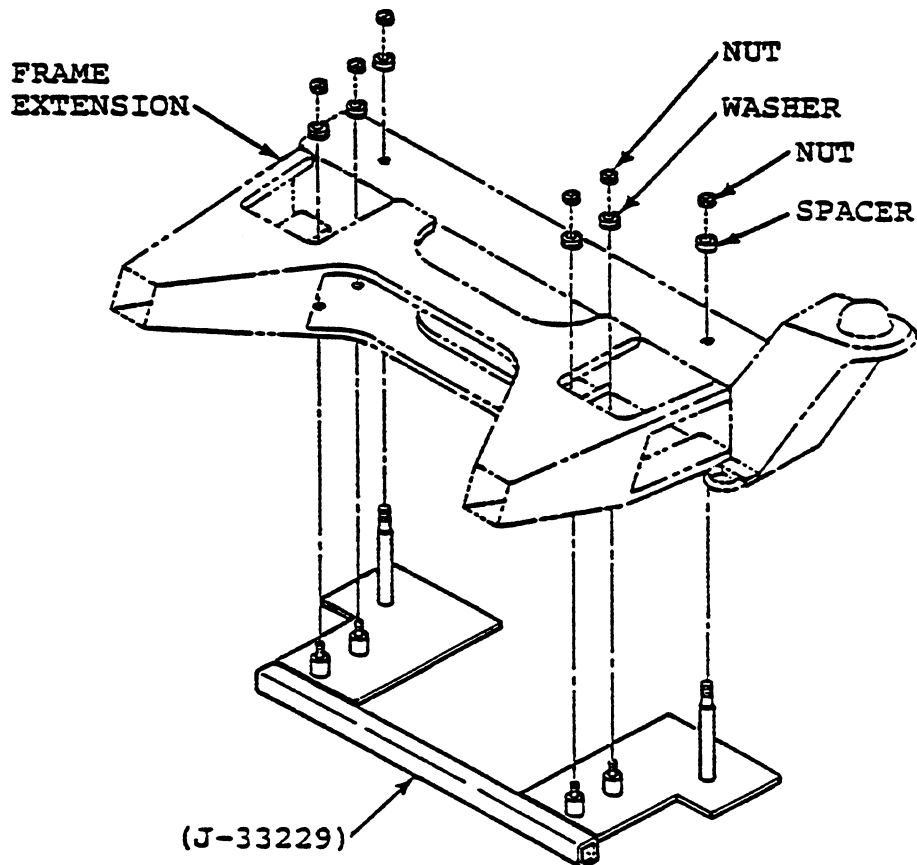

FIGURE 1
- Attach alignment jig (J-33229) loosely to front cross member (See Figure 1).
18. Attach new front frame extension (Part No. 105289) to alignment jig J-33229 (See Fig. 1). Tighten all fasteners on alignment jig while simultaneously checking positioning of frame extension to cross member.